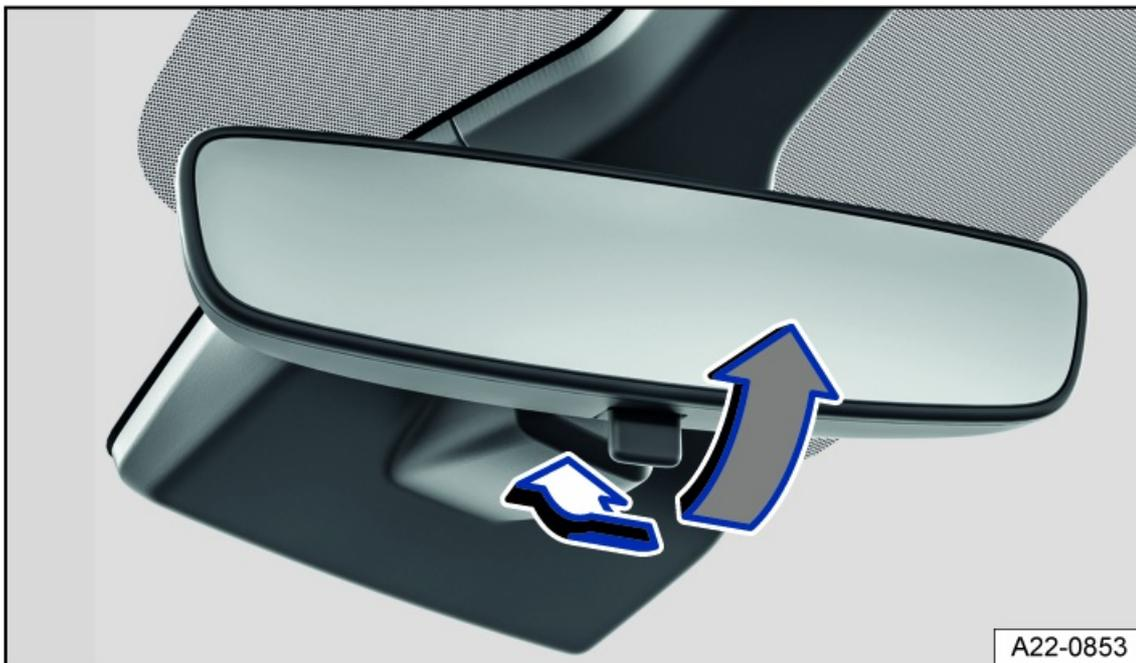

Fig. 84 On the windshield: manual dimming interior rearview mirror.
- To dim, pull the lever back fig. 84.